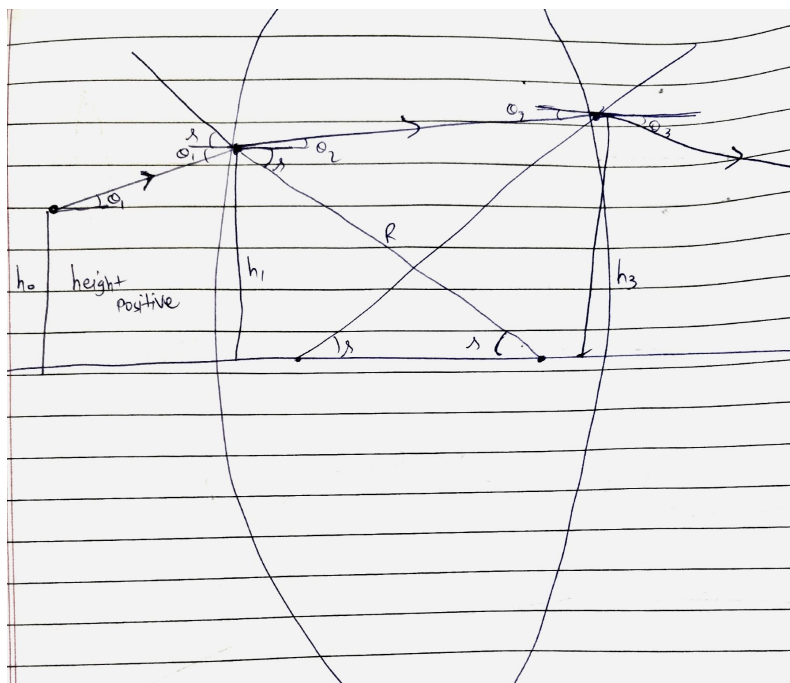

Figure 45: Lens with geometry
**Geometry of ray** is shown into figure 45. Here initial height is  $h_0$  and incident on the lens with angle  $\theta_1$ . The angle and height above the optical axis are taken as positive and below optical axis are taken as negative. In this example for instance I have taken both part as positive. Initial ray emits from height  $h_0$  with positive angle  $\theta_1$ . After bending of ray due to medium of lens, the resultant angle becomes  $\theta_2$  which could be negative or positive which depends on the snell's law for refraction at the surface of lens. Snell's law stated that  $n_1 \cdot \sin(\theta_1) = n_2 \cdot \sin(\theta_2)$ . I have taken the  $\theta_2$  as positive. Second thing is that due to angle  $\theta_1$  the height at surface would be different. Suppose that height is  $h_1$ . After travelling through medium, the final resultant angle becomes  $\theta_3$  and height becomes  $h_3$ . As aforementioned sag factor uses in to defining the surface of the lens, different rays travel different path in the air and glass media.